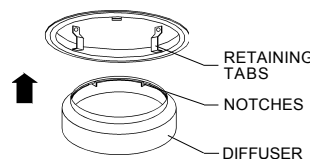

FIG. 11
1. Remove the detachable section with cutting shears. (Fig.11)